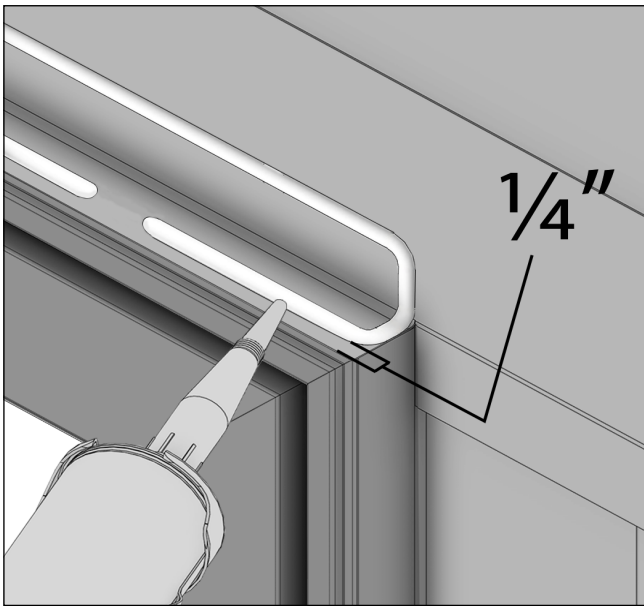
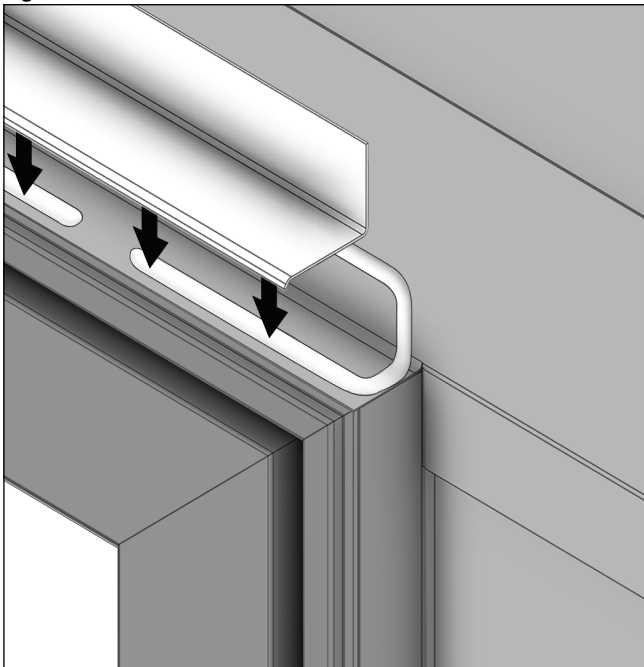

Figure 43
Figure 44
16. Install Rigid Head Jamb flashing. See Figure 43 and Figure 44